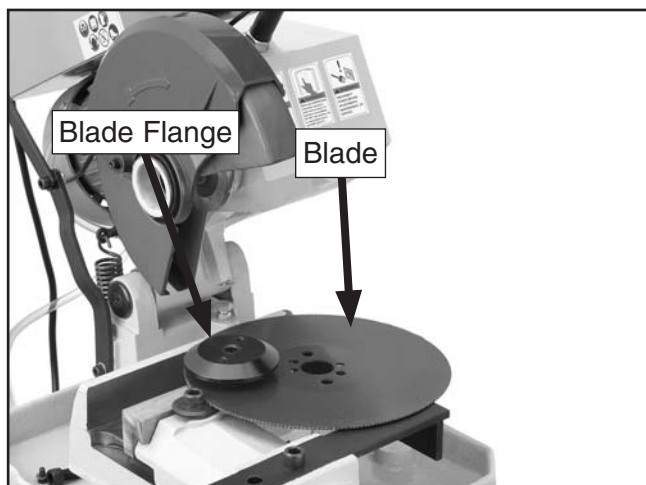

Figure 43. Blade removed.
5. Remove the blade and blade flange (**Figure 43**).